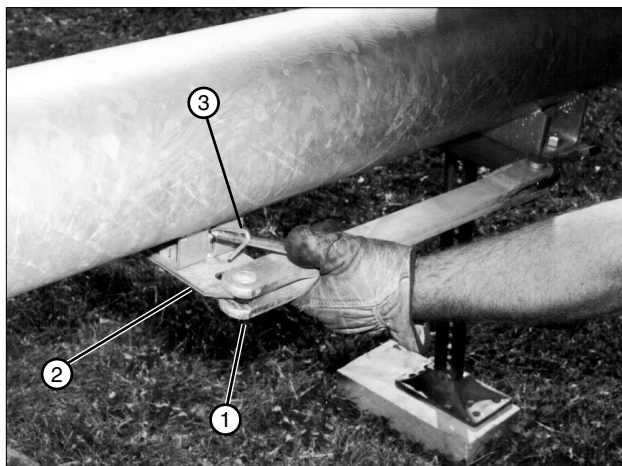

Figure 28-2 1. Tow Link Bar
2. Remove lynch pin from torque pin, then remove torque pin and disconnect tow link bar from steering arm. See figure 28-2
3. Rotate tow link bar into the tow link carrier until the carrier spring latches into the hole in tow link bar. See figure 28-2.